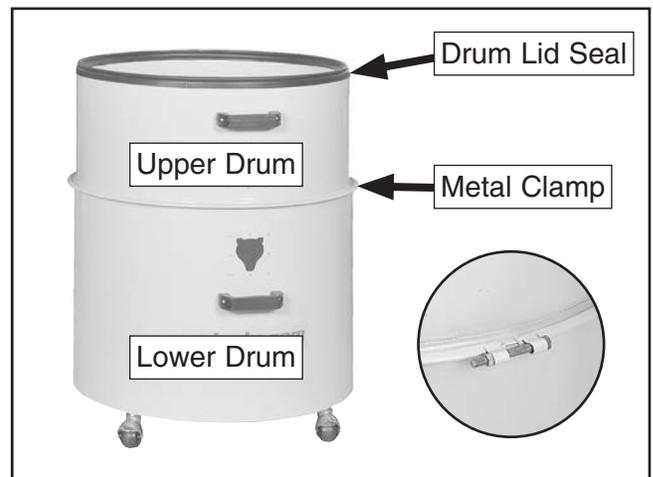

Figure 20. Drums assembled and drum lid seal installed.
25. Attach (1) plastic collection drum handle to upper collection drum using (2) $\frac{5}{16}$ "-18 x $\frac{3}{4}$ " Phillips head screws, $\frac{5}{16}$ " fender washers, and $\frac{5}{16}$ "-18 acorn nuts.
26. Place collection drum lid seal on top of upper collection drum and connect upper and lower collection drums with included metal clamp and provided hex bolt and nut, as shown in **Figure 20**.